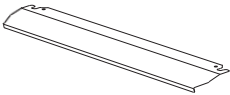

Figure 29
1.A safety panel is designed to protect control panel and the buttons when the oven is in grill mode. (figure 29)